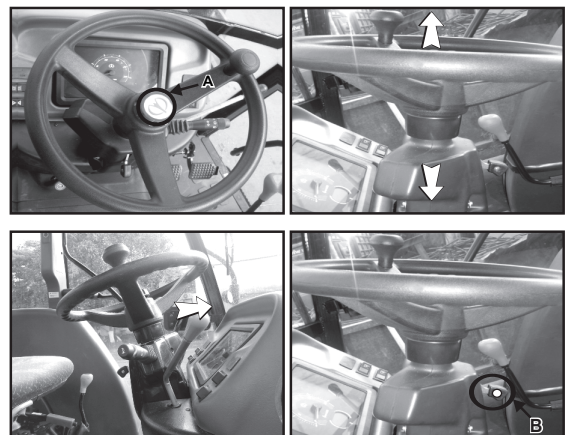

Fig. 3-13
3.12 Adjusting Steering Wheel Position (Tilting & Height) (Fig. 3-13)
Tilting Steering Wheel (Fig. 3-13) :